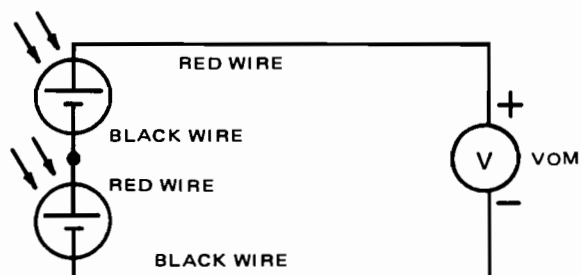

Fig. 3-5-2
6. With aid of a solar cell from another lab group, connect two cells in series as indicated in Fig. 3-5-2.